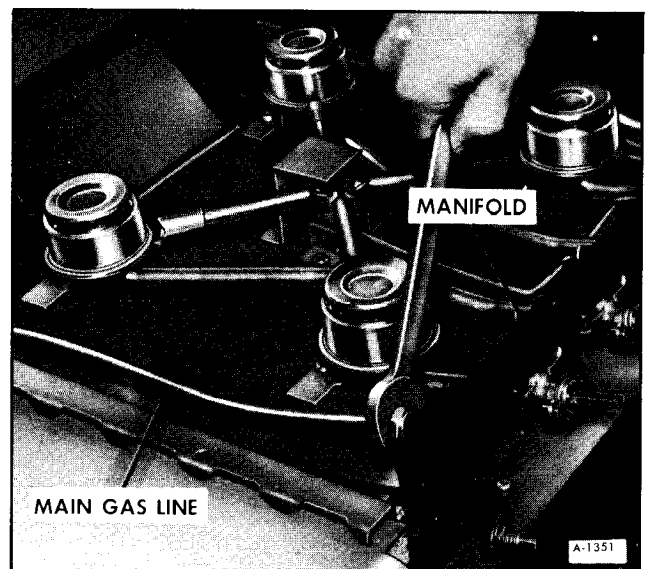
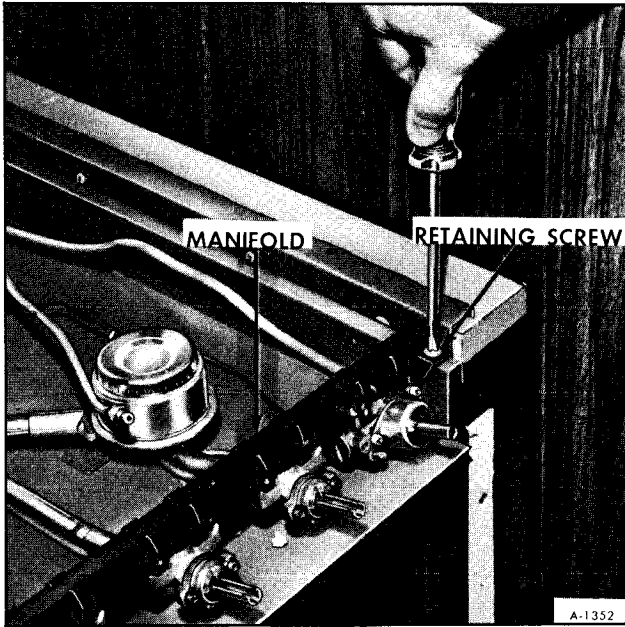

Figure 11—Disconnecting Main LP Gas Line
Figure 12—Removing Manifold Retaining Screws
7. Disconnect the main fuel line from the manifold and remove the two screws holding manifold in place (one at each end) (figure 11 and figure 12).
5. Disconnect the main fuel line from the manifold and remove the two screws holding the manifold in place (one at each end) as shown in Figures 11 and 12.
2. Disconnect gas line from manifold (figure 11).